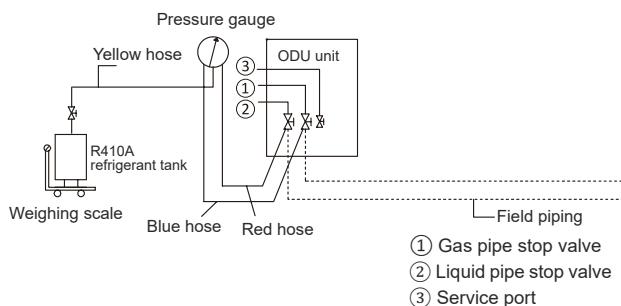

Fig 5.33
- Flush the other openings in the same manner, working in sequence from indoor unit A towards the outdoor units. Refer to Fig.5.33